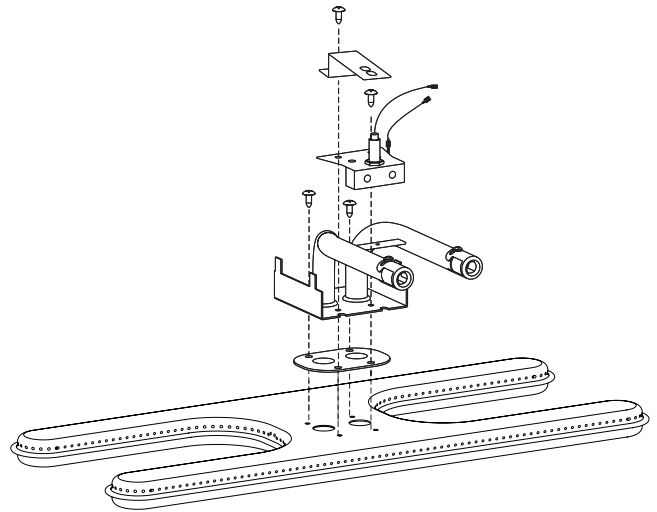

Figure 26
3. Lay the burner face down and remove the four retaining screws from the venturi tube plate and the burner. **See Figure 26.**